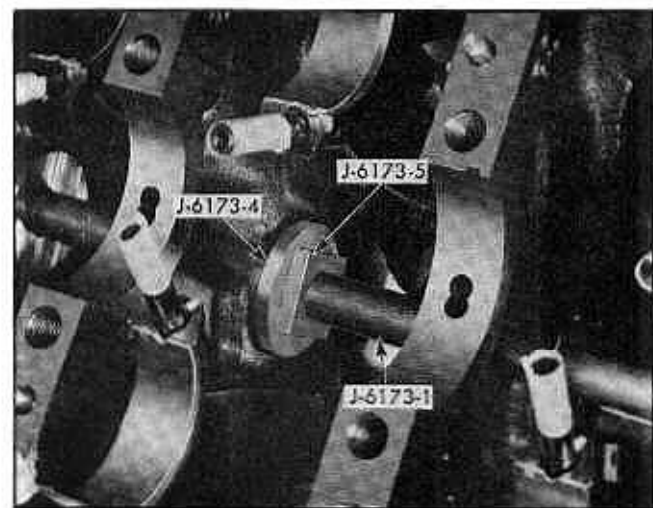

Fig. 6-71 Preparing to Remove Bearing
5. Slip Key J-6173-5 into notches in shaft behind bearing to be removed (Fig. 6-71).